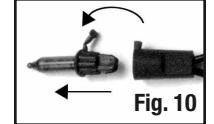

Fig. 10
2. Pull up on the Base Lock™ unlatching the bulb from the bulb socket. Gently pull the bulb straight out (Figure 10).